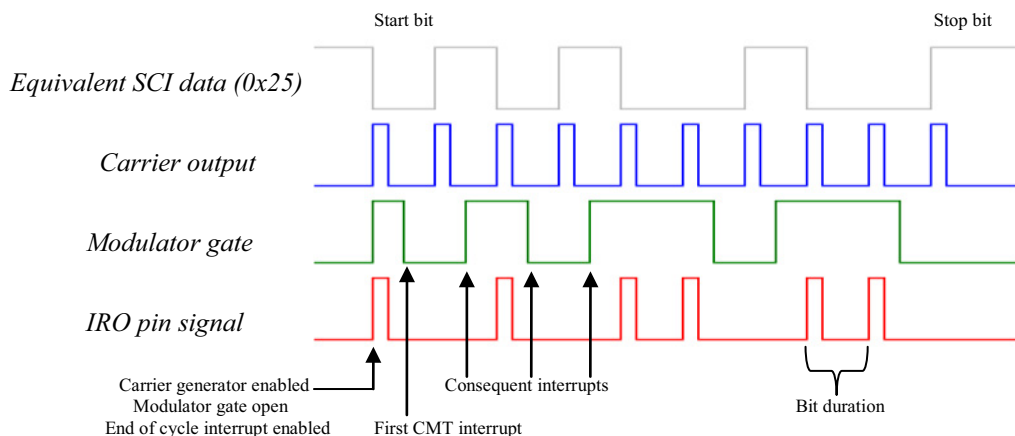

Figure 3. Modulated signal explanation
5. The modulator period is set to half of bit duration, and the modulator and carrier generator are enabled. It is because the start bit is a zero (a pulse with duration of 3/16 of bit period) generated by the carrier output (blue signal on Figure 3) and the modulator gate is open (green signal on Figure 3) for 1/2 of the duration of a bit period.
6. The period registers are then immediately loaded with the value of a complete bit duration time, because the CMT will load these values at the beginning of the next period. It is used to open or close the modulation gate in the middle of the bit period, avoiding false pulses. This task is performed in the CMT interrupt. Figure 3 shows the behavior of this task.